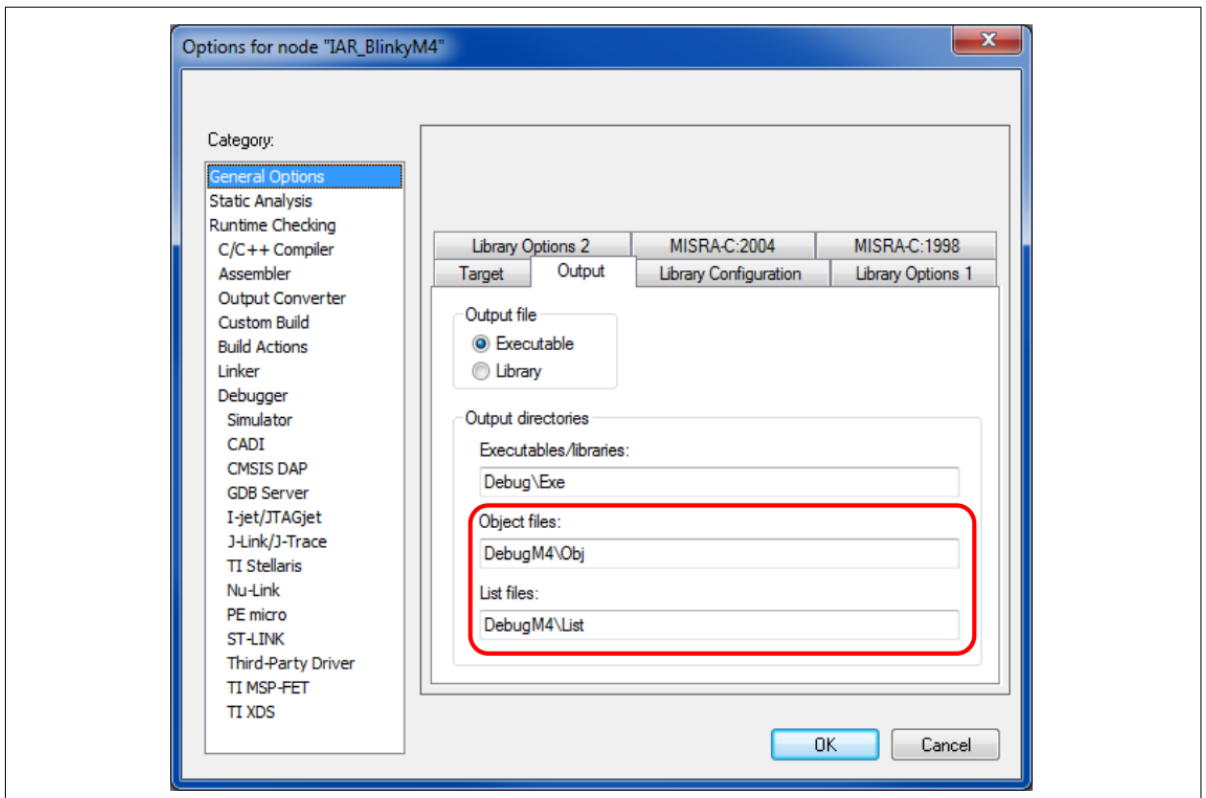

Figure 35 Unique output folders for CM4 project
- In the **Options** dialog, **General Options** section, **Output** tab, change the output directories for object and list files, as Figure 35 shows. Do not change the executables/libraries output folder